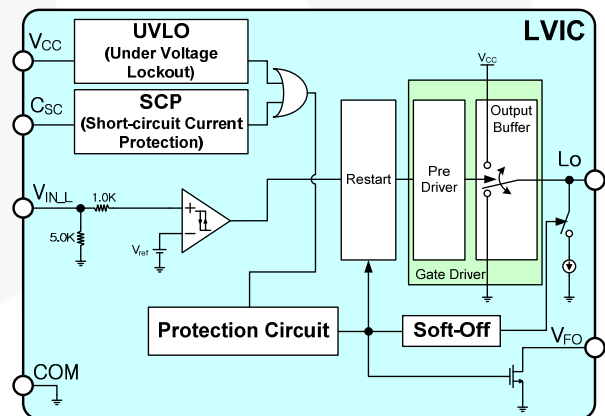
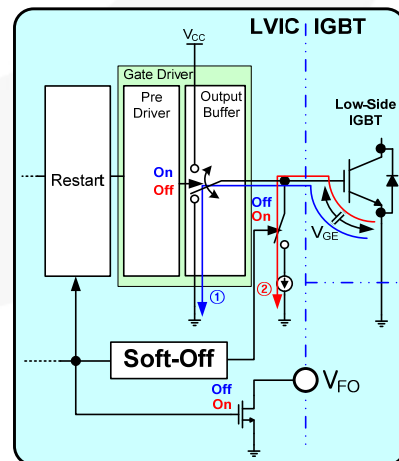

Figure 25. Internal Block Diagram
Figure 26. Operation Sequence of Soft Turn-Off
Block diagrams of LVIC and the operation sequence of the soft turn-off function are shown in Figure 25 and Figure 26. There are two internal protection functions, UVLO and SCP. When IGBT is turned off in normal conditions, LVIC turns off the IGBT immediately by a turn-off gate signal (V_{IN_L}) via gate driver block (pre-driver turn-on output buffer of gate driver block, path ① in Figure 26). However, when IGBT is turned off by a protection function, the gate driver is disabled by the protection function signal via the output of the protection circuit (disable output buffer, high-Z). Output of the protection circuit turns on the switch of soft-off function. Therefore, V_{GE} is discharged slowly via circuit of soft-off. (path ② in Figure 26).